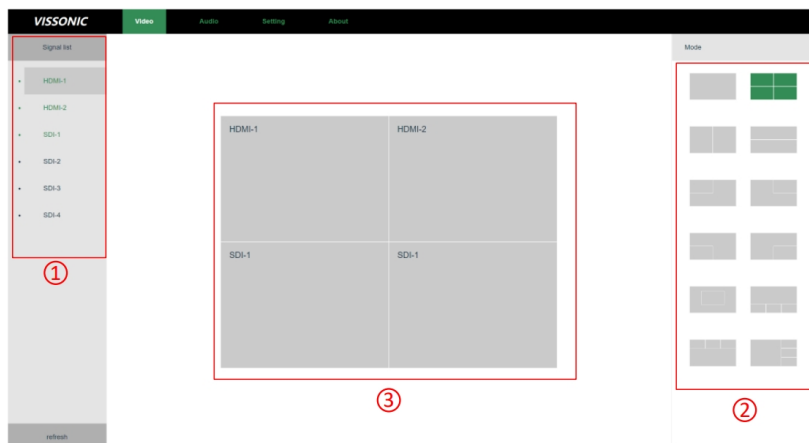

Figure 6.2 Screen split
- Log in to the web page, enter the IP address 192.168.1.189, and if you can log in to the interface as shown in Figure 6.2, it means that the connection is successful. Click Video and Audio to control the screen segmentation and audio switching of the camera tracking controller. Screen split: as shown below: